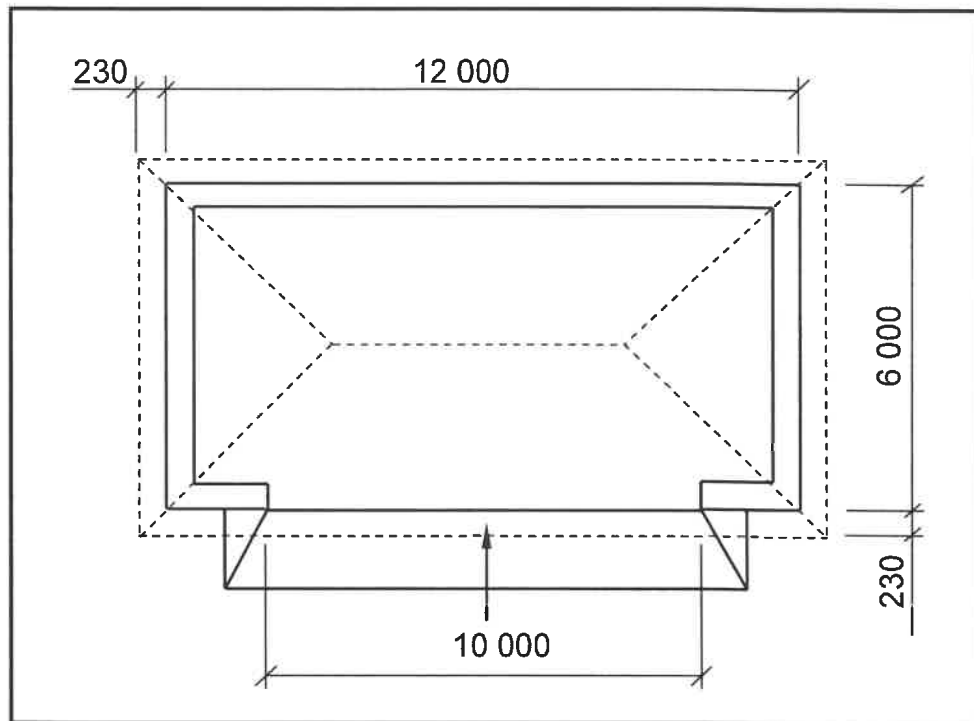

FIGURE 3.5
- 3.5 FIGURE 3.5 below shows the floor plan of a garage with a hipped roof. The width of the walls is 220 mm. Study the figure and answer the questions that follow. Show ALL calculations.